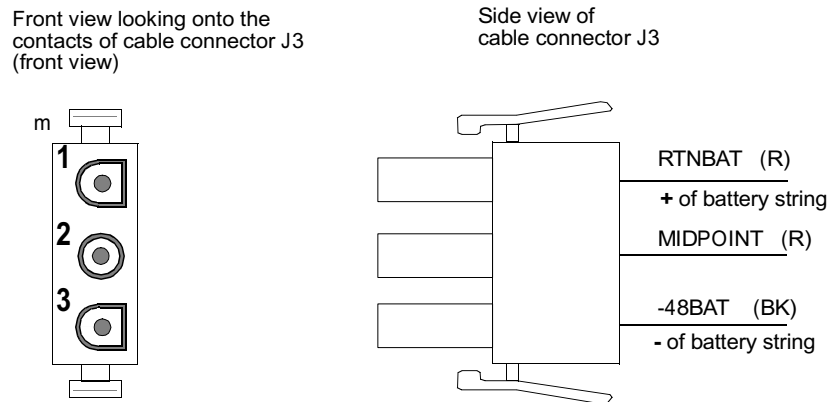

Figure 9-2 Wiring of battery cable connector J3
- Step 3 Locate and disconnect the 3-pin battery cable connector J3. The wiring for connector J3 is illustrated in Figure 9-2.